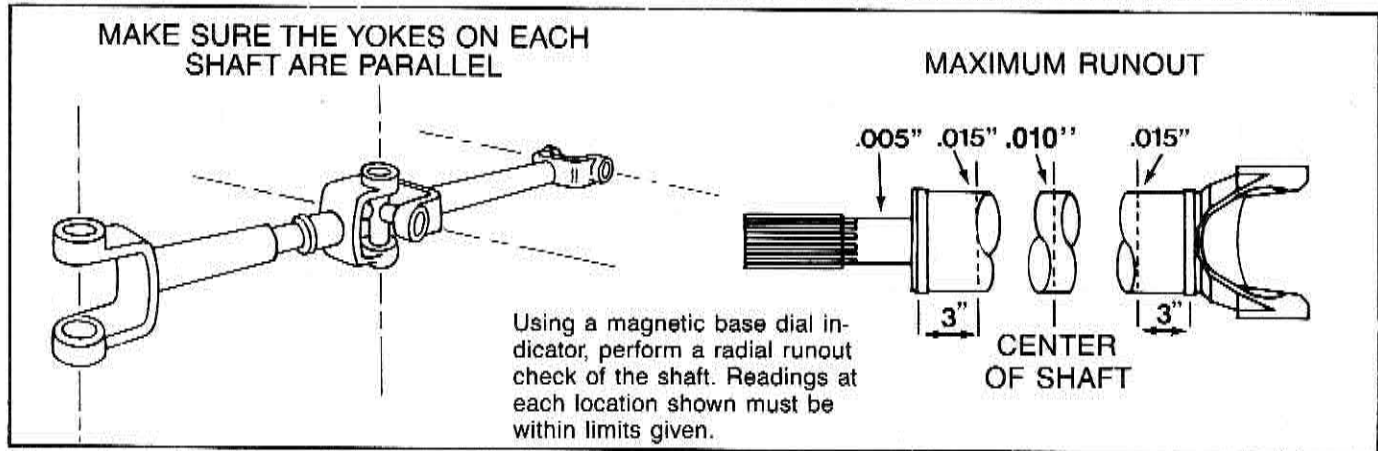

Figure A4-1-4 — Proper Phasing and Maximum Drive Shaft Runout
- Propeller shaft joints are out of phase on one or more splines. See Appendix 4-1/Figure A4-1-4 or Appendix 4-2/Figure A4-2-6 at the end of this section of the manual.
Before completing a discussion of two-shaft drivelines, consider the following: "Could the system be reversed and the one-half degree be placed at the pinion end?" The answer is a technical yes, but in reality, you are better off with the half degree at the engine end. With the solid-mount transmission and first shaft, you are generally better off to have your bigger working angles further from the passenger compartment at the pinion end. Noise and vibrations are further away and are somewhat absorbed in springs and suspension. Concerning this, consider what happens to the angles of the middle joint and at the pinion nose as the axle and the drive shaft move through loadings and ride travel. Chances are small of maintaining proper joint relationships. Stay with the one-half degree at the engine, and equal and canceling angles as a pair at the middle joint and pinion joint. Also, remember with a two-shaft system, that the drivelines must be in proper phase at the slip yoke. If off one spline, a vibration complaint will result. The illustrations of Figure A4-1-4 show proper phasing and maximum drive shaft runout.